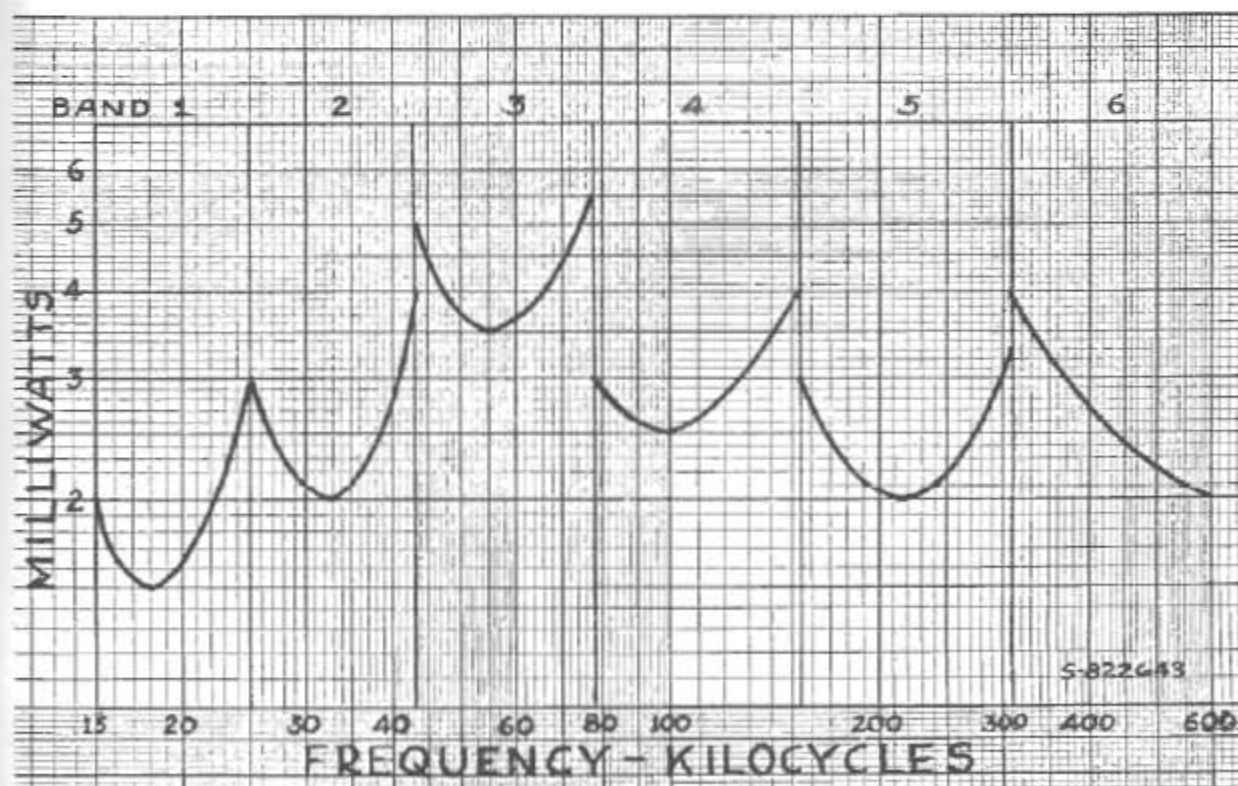

Figure 9—Maximum Noise
11.2-1 Figure 9 shows approximate values of maximum receiver noise level for the various bands. These data will be found useful for a rough check on sensitivity. The method of measurement is to adjust the receiver as for sensitivity (see 11.1), switch off the signal generator, increase the "Sensitivity" control to maximum and measure the output noise voltage. The measured values of noise may be expected to vary considerably due to atmospheric conditions, tube characteristics, external noise conditions, etc. so that unless the noise output is definitely low, no attempt should be made to improve performance and, in any case, the sensitivity should first be accurately checked as explained in paragraph 11.1.
11.2-2 If measuring equipment is not available, an approximate measurement may be made by adjusting the "Regeneration" control to critical oscillation and all other controls for maximum noise output. The antenna terminal should be connected to ground through a standard dummy antenna or a 200 mmfd. capacitor inside the receiver cabinet (to eliminate external noise pickup). In this case the noise output should be approximately 3 db higher than the values shown in Figure 9. (This is twice the value of milliwatts shown therein.)